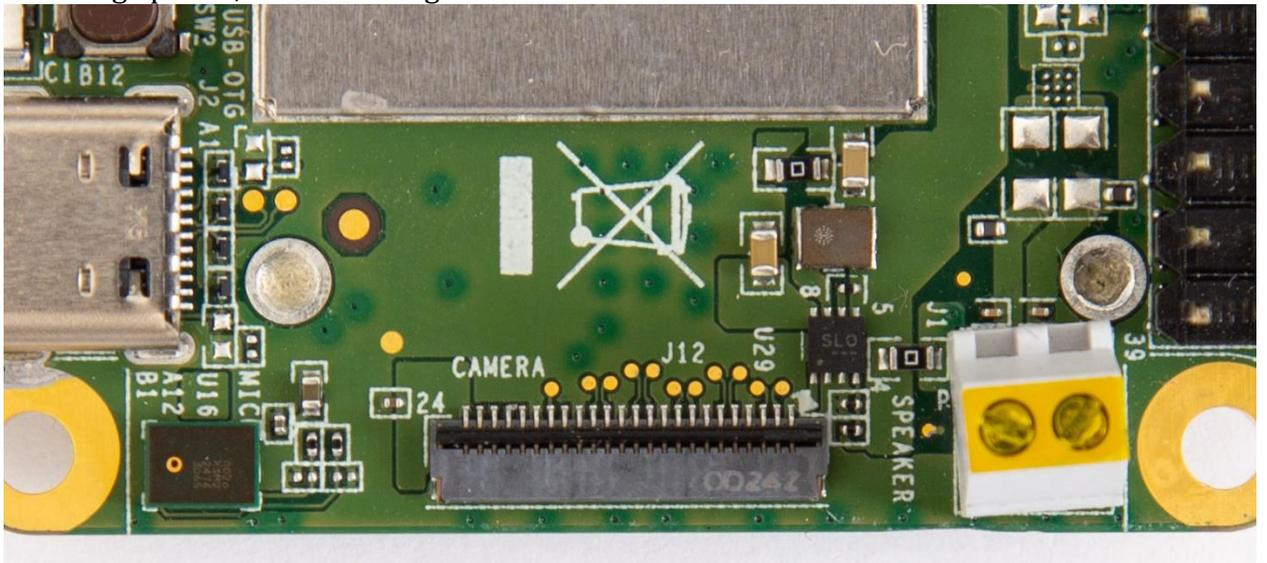

Figure 1. The board's camera connector with the latch open
2. On the top of the Dev Board Mini, locate the "Camera" connector and flip the small black latch so it's facing upward, as shown in figure 1.